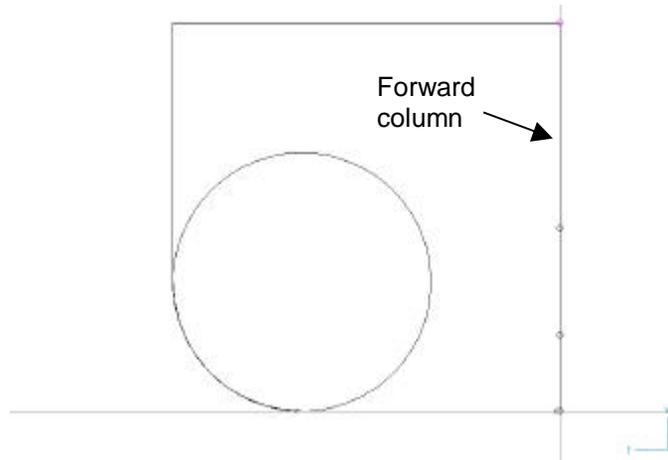

Figure 2-9: Forward column straightened
8. With the topmost vertex selected, click the **Straighten** button and then click on the vertex at the baseline/centreline. This will move all the vertices in between the two vertices you selected to the centreline. (See Figure 2-9.)